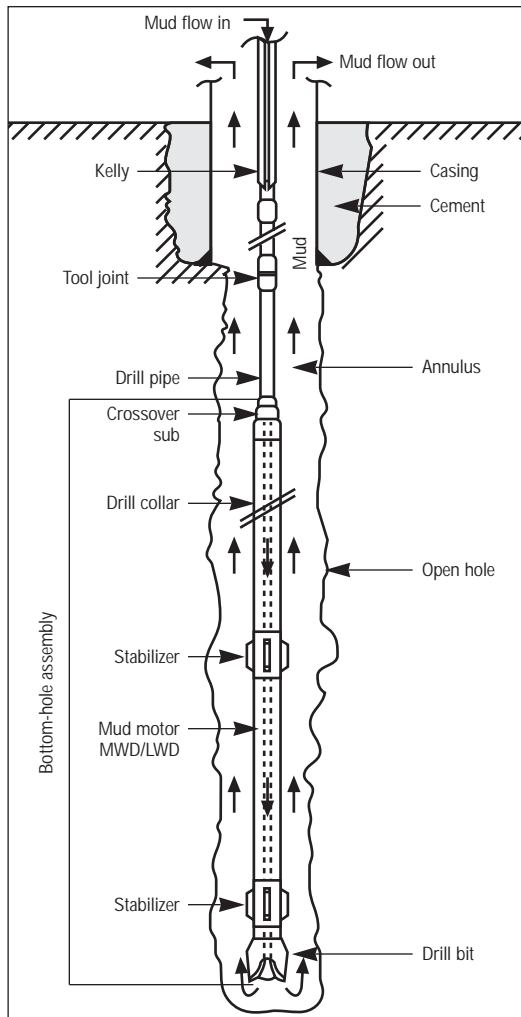

Figure 5: Drillstring components.
Starting at the bottom, a basic drillstring for rotary drilling consists of the (1) bit, (2) drill collars and Bottom-Hole Assemblies (BHAs), and (3) drill pipe (see Figure 5).